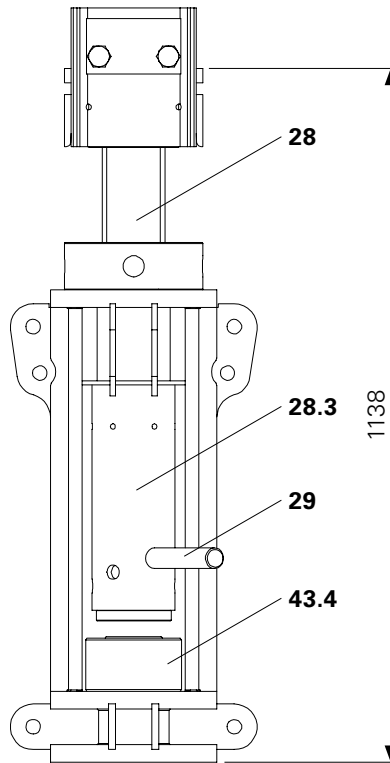

Fig. D1.05
1. Insert the hydraulic cylinder (43.4) into the Head Spindle VST 100 (28).
2. Insert the Mounting Shaft VST (29) into the spindle sleeve (28.3). (Fig. D1.05)